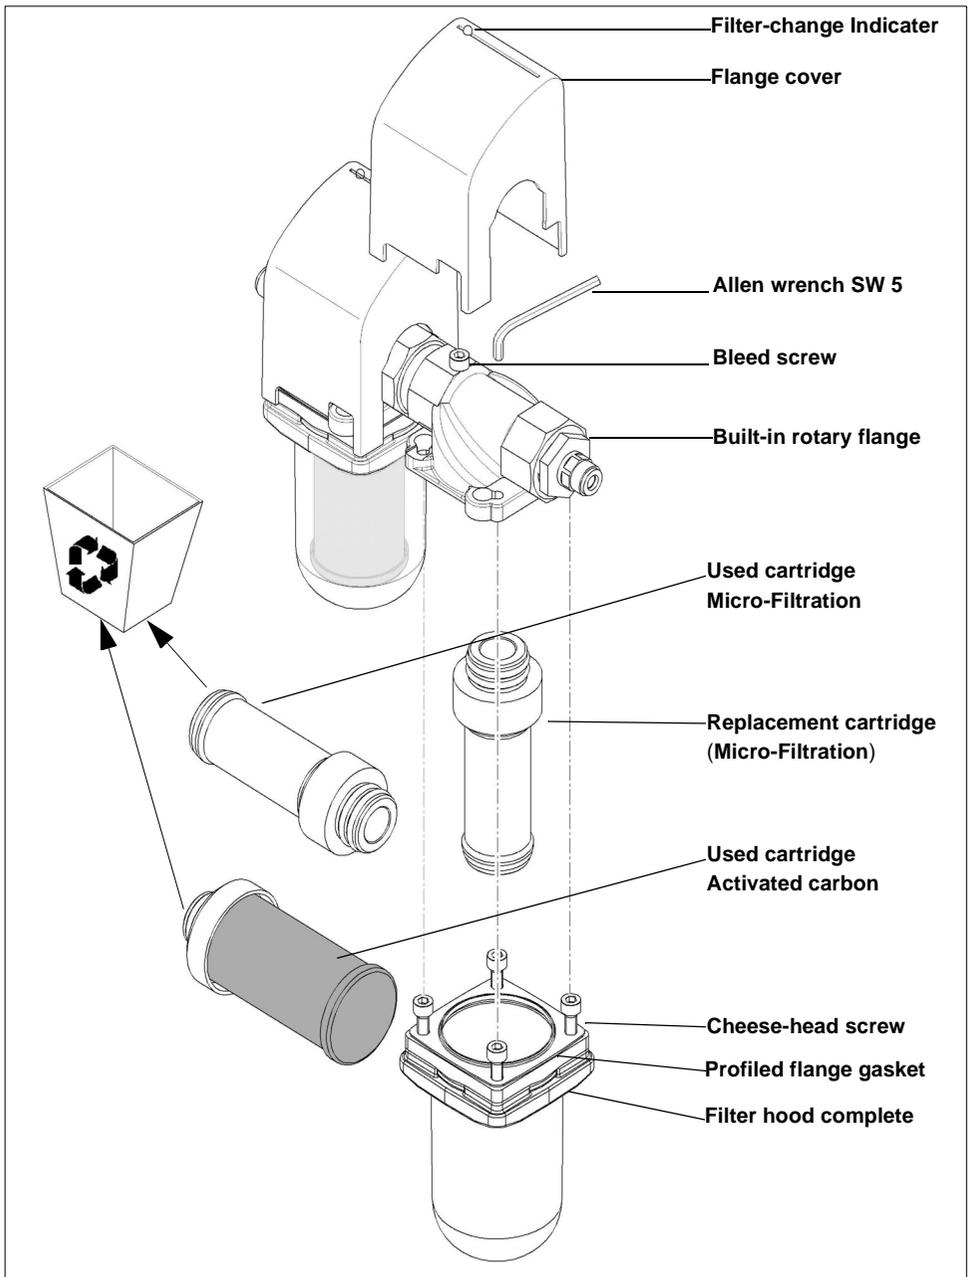

Fig. 11: Replacing the cartridge
- 3 Remove the flange cover upward (see Fig.11).